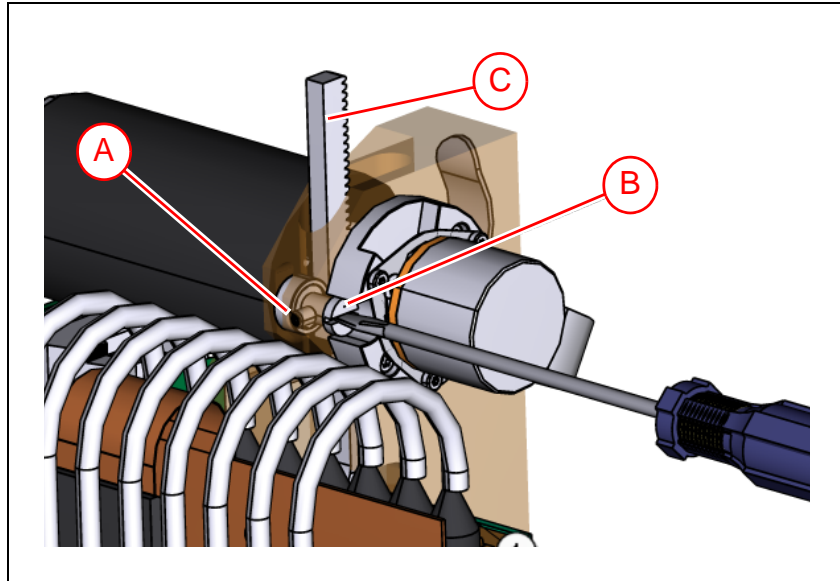

Figure 6-19. *HZ Cog play* adjustment.
2. Loosen the locking screw ('A' in Figure 6-19).